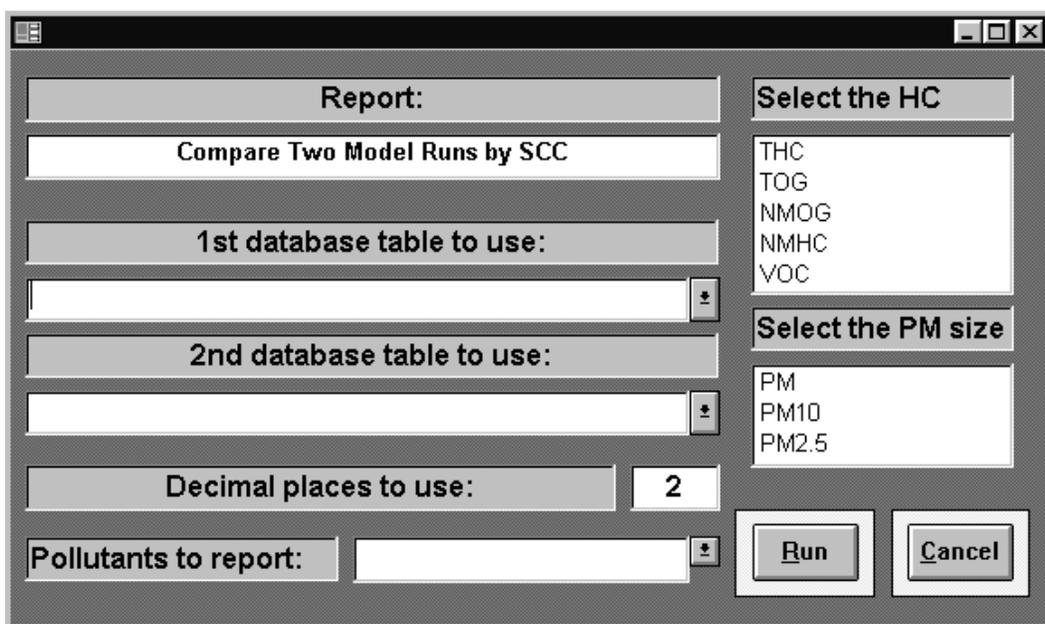

Figure 5-5: Report options for comparing two model runs.
3. Enter the report options. For the comparison reports *Compare Two Model Runs by Source Classification*, *Compare Two Model Runs by SCC*, and *Compare Two Model Runs by HP and Source Classification*, the report options are shown in Figure 5-5.